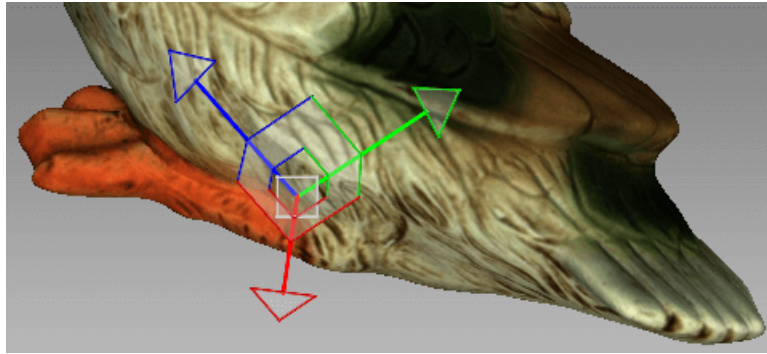

Figure 125: Translation control
- Translate the object in the *3D View* window by dragging the corresponding control (see Figure 125):